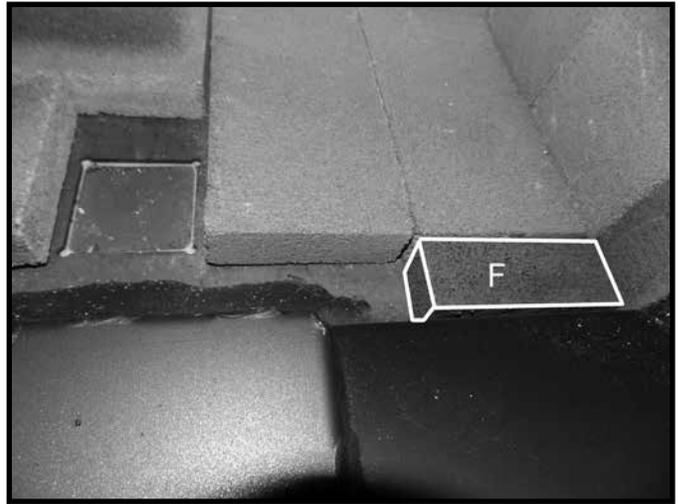
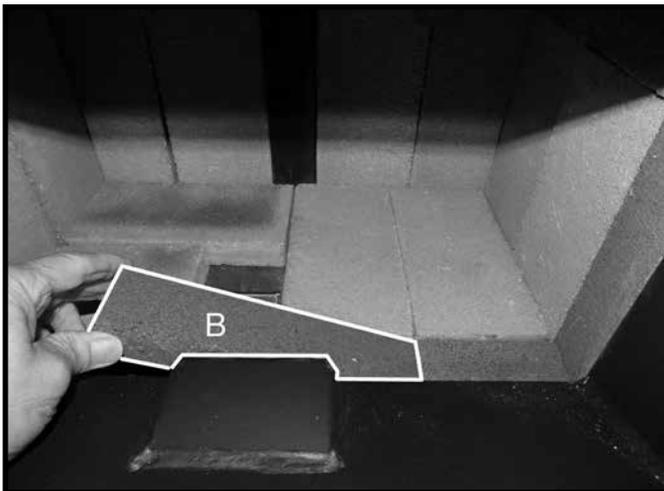
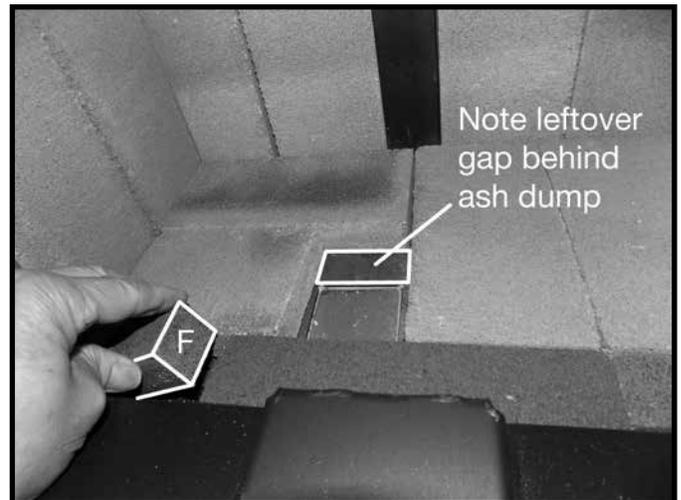

Figure 26: Short, narrow brick installed in front row.
Figure 27: Long narrow center brick in front row.
Figure 28: Final short narrow brick in front row.
- Place a short narrow "F" brick against the front right side of the floor (Figure 26) followed by a longer "B" brick in the center of the front row (Figure 27). Finish with the last "F" brick placed against the left side front row (Figure 28). Note: There will be a leftover gap behind the ash dump.